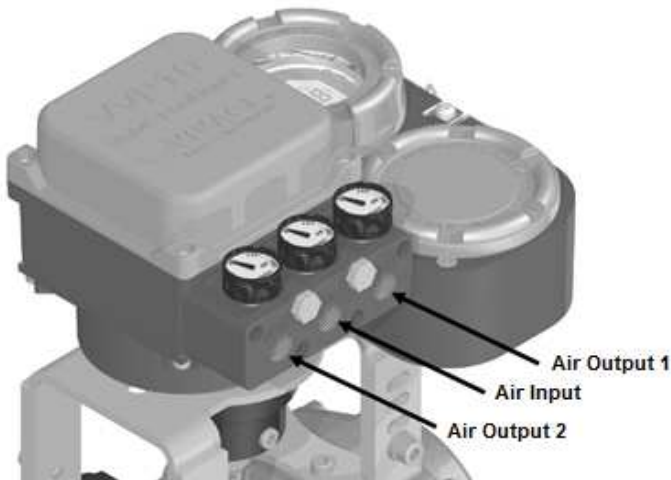
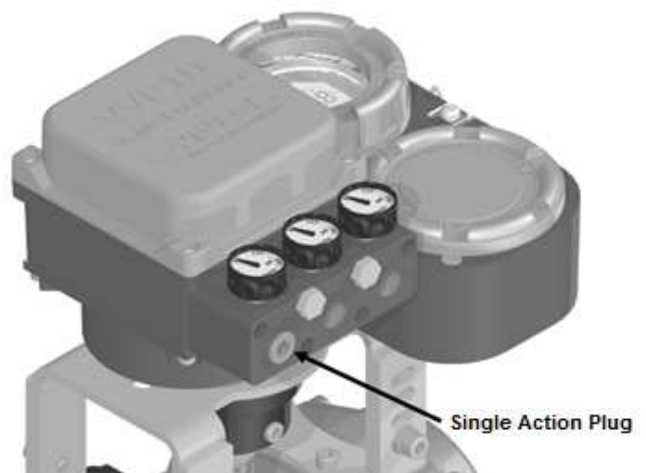

Figure 2.3 – Pneumatic connections for VVP10.
Figure 2.4 – Plug for single action.
Figure 2.3 identifies the input and output connections for the supply air that will move the positioner. When the positioner is used in a single action set, simply close output 2 using the supplied plug (item 13 in figure 4.1), turning the valve into a 3-way system (figure 2.4).